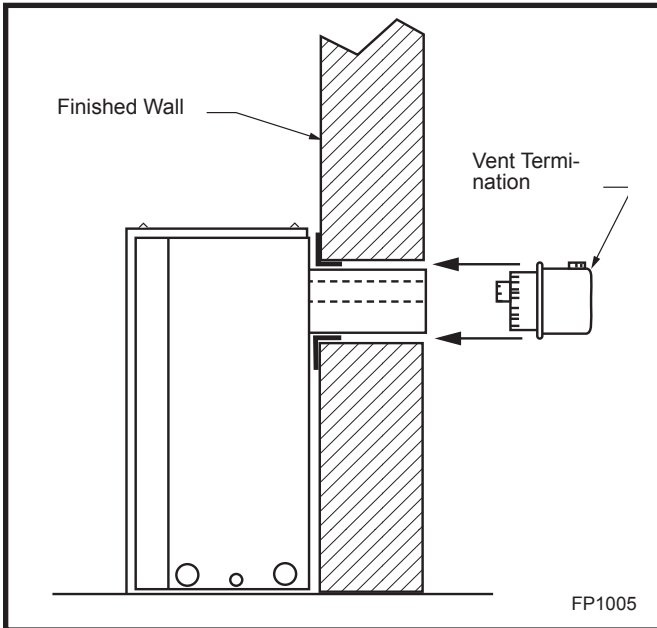

Fig. 18 Side view of final unit location.
Slip 4" and 7" pipes onto respective flue collars. Make sure to fix to the fireplace collar the 4" pipe with three (3) screws before fixing the 7" pipe on the 7" collar. Both pipes must be on a level plane. (Fig. 18)
Guide the vent termination 4" collar into the 4" pipe then the 7" collar into the 7" pipe. Do not force the venting into position. If the pipes do not line up with the termination collars, disassemble pipes and reattach to the fireplace collar. (Fig. 18)